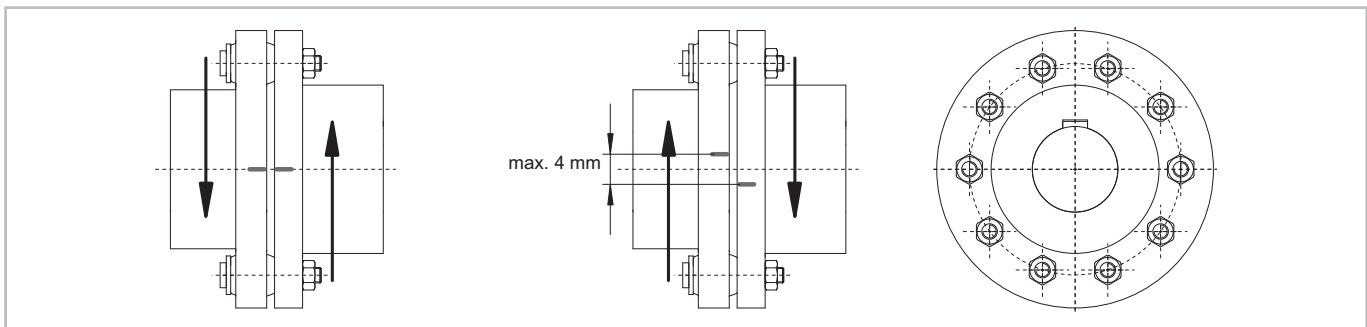

Fig. 3: Checking the elastomer elements of the coupling
- Mark both halves (*see figure 3, page 18*).